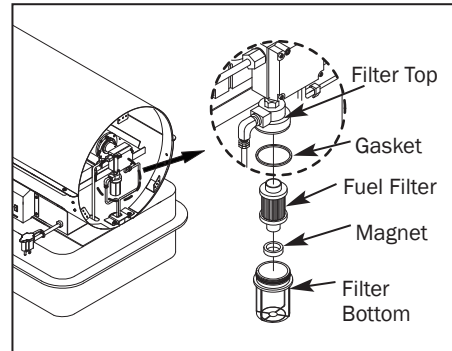

Figure 23 – Fuel Pump Filter
- Install accessory pressure gauge to pressure gauge port (See Figure 23).